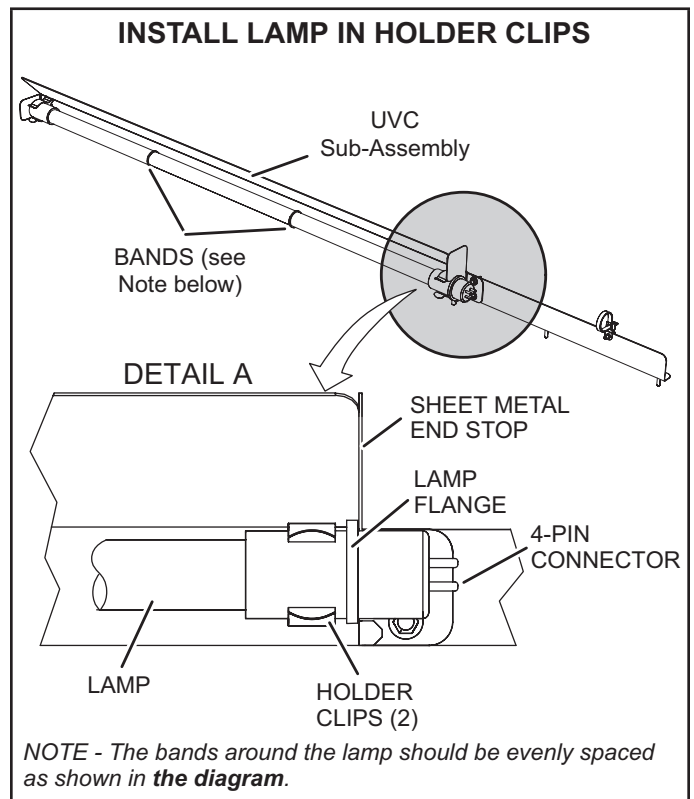

FIGURE 29
- 5 - Remove the (2) mounting screws of the UVC assembly. Carefully slide the complete UVC assembly out through the blower access door.
- 7 - Wear cotton gloves or use a cotton cloth when handling the new lamp. Place the new lamp in the holder clips of the UVC assembly. Verify that the lamp flange at the connector end is sandwiched between the lamp holder clip and the sheet-metal end stop (see FIGURE 29).